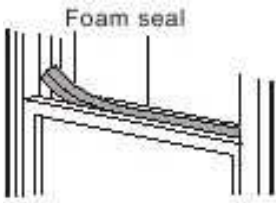

Fig.7
5. Trim the final foam seal to the proper length and seal the open gap between the sliding window panel and the outer panel. (Fig.7)